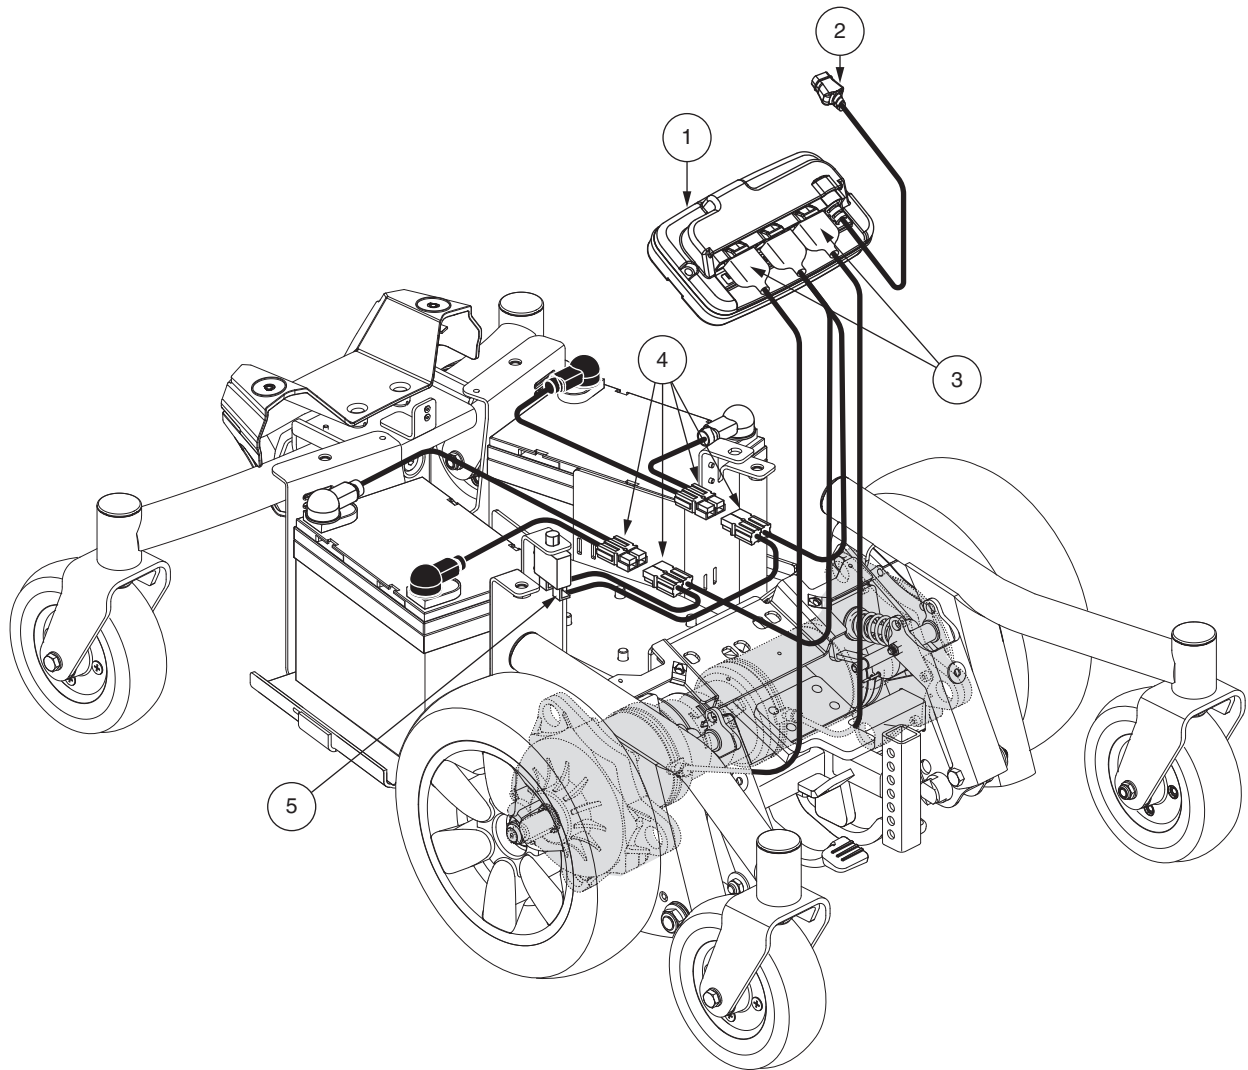

Figure 3. Electrical Components (Seat Post with GC3 Controller)
The electrical components are located either on or inside the power base. The main circuit breaker is located on the side of the power base. The power module is located under the front cover. **See figures 3 and 4.**
4. Plug the controller harness into the connector on the power base. See **figure 3** or **4**.
10. Plug the controller harness into the connector on the power base. See figure 3 or 4.